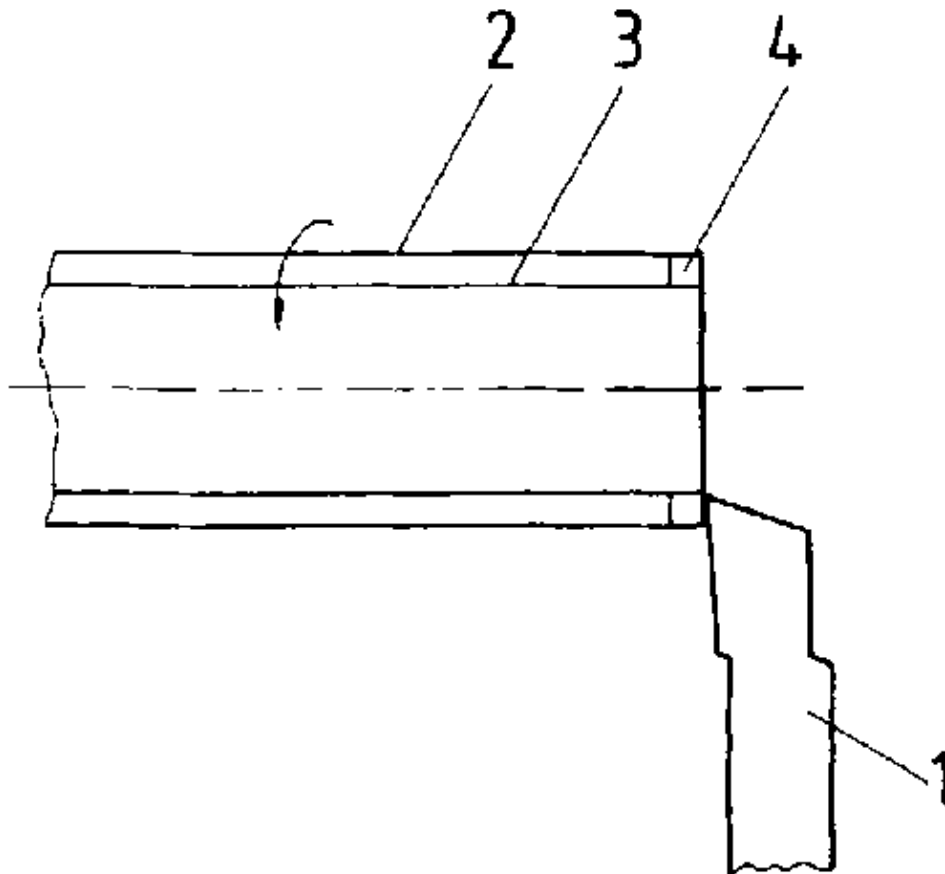

Figure 36. Starting the cut at the workpiece for dimensional inspection
- Starting the cut with 1–2 mm, then the tool carrier is returned (see fig. 36)